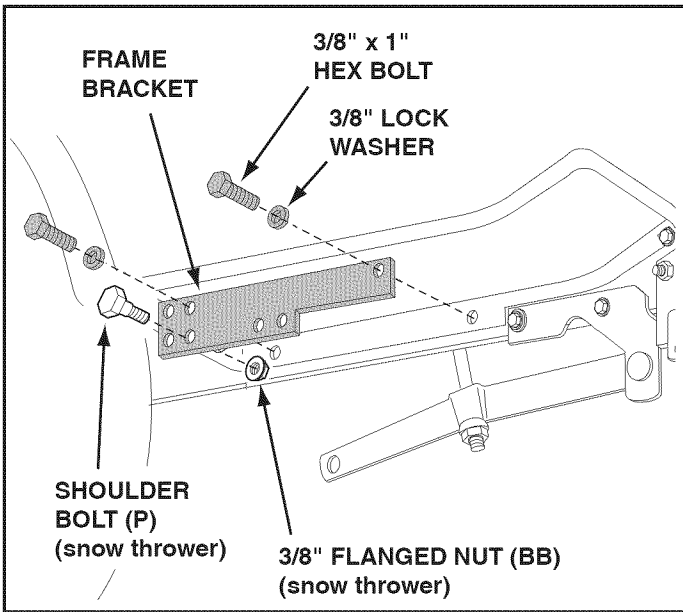

FIGURE 8 RIGHT SIDE VIEW
STEP 8: (SEE FIGURE 8)
- Assemble a shoulder bolt (P) and a 3/8" flanged nut (BB) (both supplied with the snow thrower) to the frame bracket.